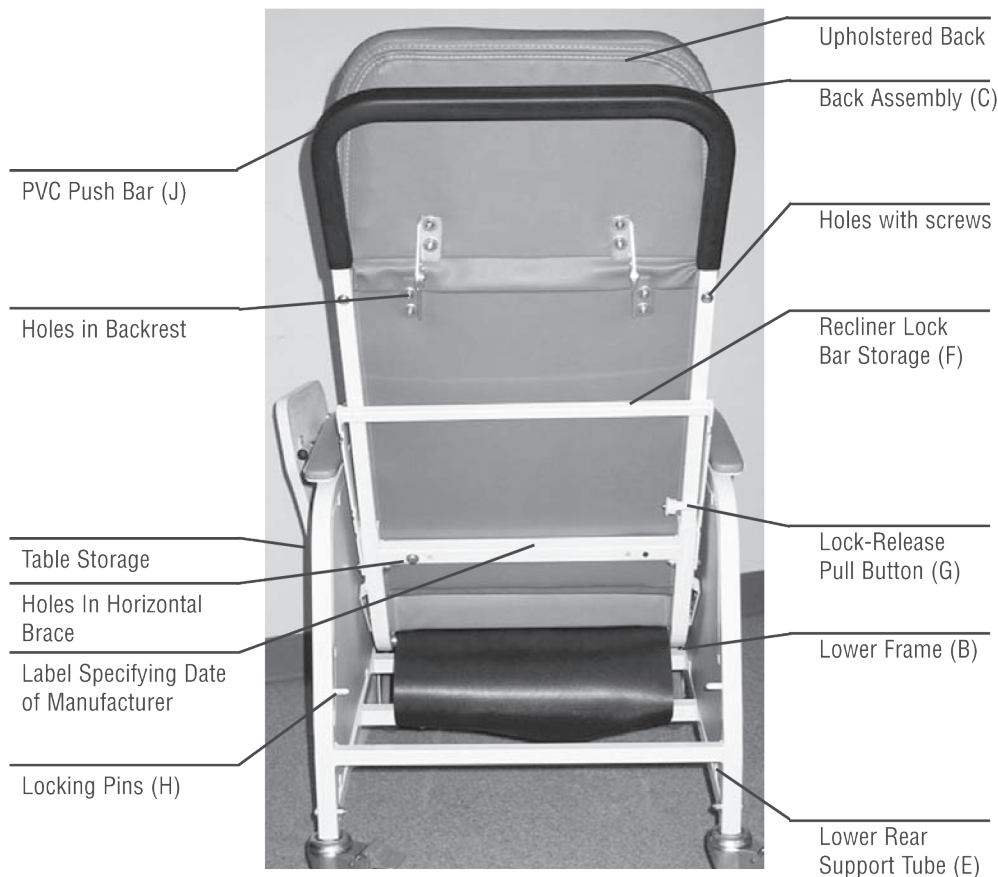

Figure 1
1. Ensure that recliner lock bar is in stored position. See fig. 1 (I).
3. Grasp armrest with one hand, and PVC push bar (J).
6. Set recliner Lock Bar (F).